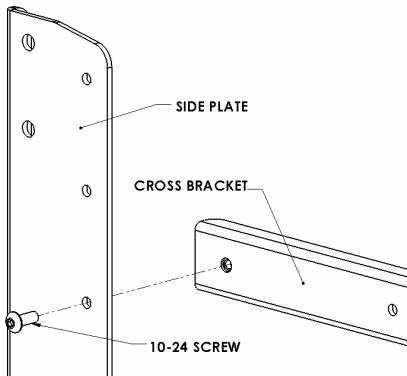
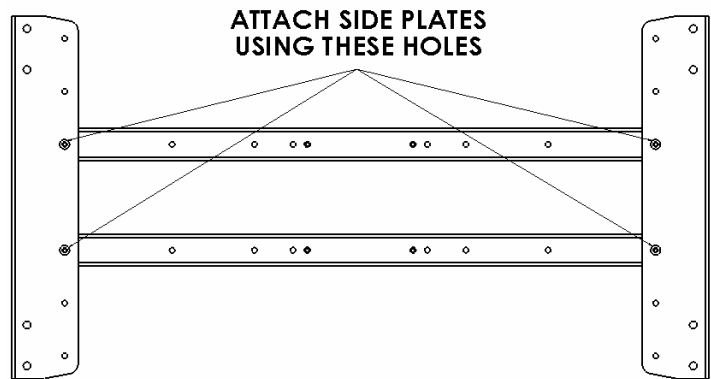

Figure 8
Figure 9
5. **Side Bracket Assembly:** Attach center brackets to side brackets using the 10-24 button head cap screws (see Figure 8 & Figure 9).